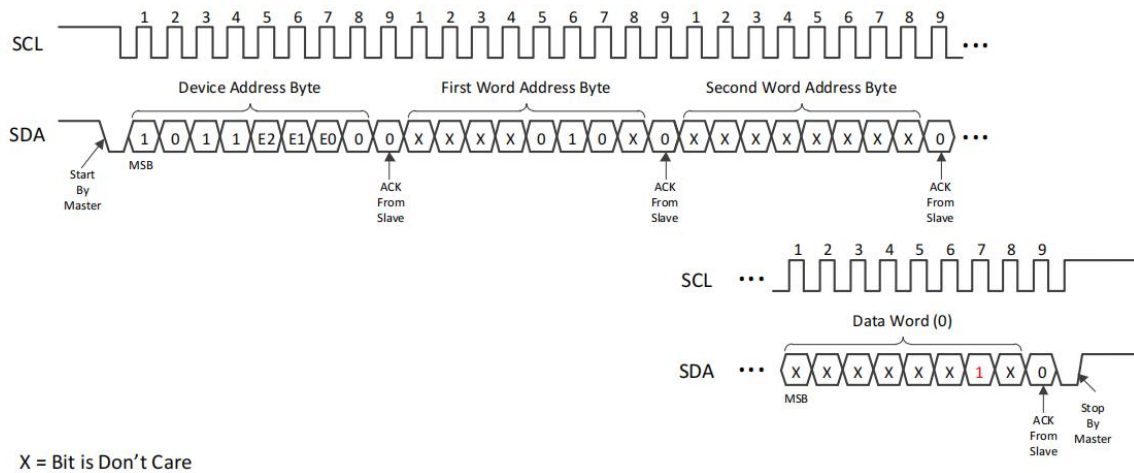

Figure 11 Lock Identification Page
- The data byte must be equal to the binary value xxxx_x1x, where x is Don't Care (see Figure 11).